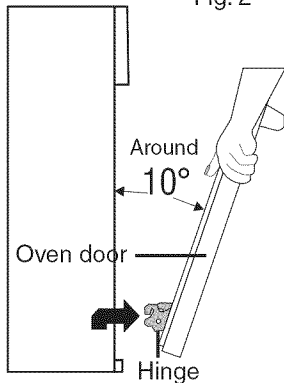

Fig. 3
3. Firmly grasp both sides of oven door along the door sides (Do not use the oven door handle- See Fig. 3).
1. Firmly grasp both sides of oven door along the door sides (Do not use the oven door handle- See Fig. 3).